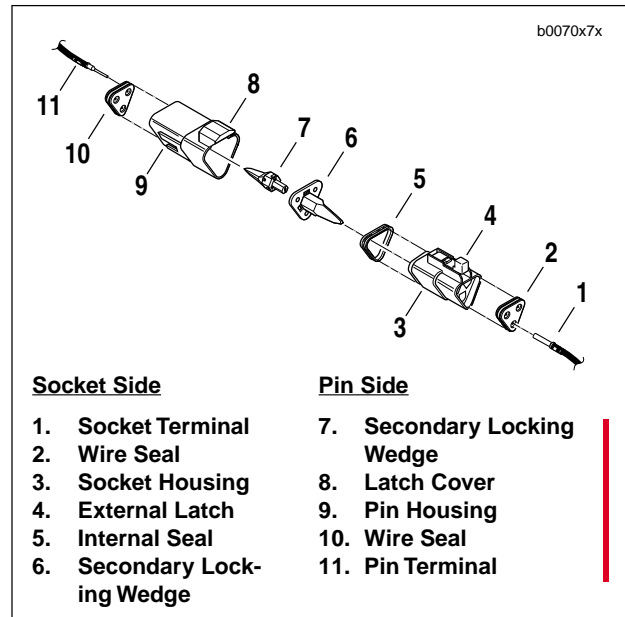

Figure 7-75. 3-Pin Connector
1. See Figure 7-75. Remove the secondary locking wedge (6). Insert the blade of a small screwdriver between the socket housing and locking wedge inline with the groove (inline with the pin holes if the groove is absent). Turn the screwdriver 90° to pop the wedge up.
2. Gently depress terminal latches inside socket housing (3) and back out socket terminals (1) through holes in rear wire seal (2).
3. Fit rear wire seal (2) into back of socket housing, if removed. Grasp socket terminal approximately 1.0 in. (25.4 mm) behind the contact barrel. Gently push sockets through holes in wire seal into their respective chambers. Feed socket into chamber until it "clicks" in place. Verify that socket will not back out of chamber; a slight tug on the wire will confirm that it is properly locked in place.
4. Install internal seal (5) on lip of socket housing, if removed. Insert tapered end of secondary locking wedge (6) into socket housing and press down until it snaps in place. The wedge fits into the center groove within the socket housing and holds the terminal latches tightly closed.
1. See Figure 7-75. Remove the secondary locking wedge (7). Use the hooked end of a stiff piece of mechanic's wire or a needle nose pliers, whichever is most suitable.
2. Gently depress terminal latches inside pin housing (9) and back out pin terminals (11) through holes in wire seal (10).
3. Fit wire seal (10) into back of pin housing (9). Grasp crimped pin approximately 1.0 in. (25.4 mm) behind the contact barrel. Gently push pins through holes in wire seal into their respective numbered locations. Feed pin into chamber until it "clicks" in place. Verify that pin will not back out of chamber; a slight tug on the wire will confirm that it is properly locked in place.
4. Insert tapered end of secondary locking wedge (7) into pin housing (9) and press down until it snaps in place. The wedge fits in the center groove within the pin housing and holds the terminal latches tightly closed.